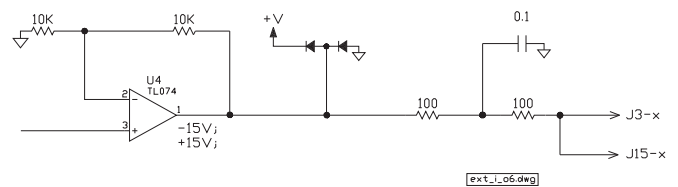

Figure 2-6
**Figure 2-6:** Monitor Voltage metering outputs are nominally a fixed VDC value from a low impedance source, for a normal Transmitter meter reading at 200kW output. Connecting metering outputs to any input other than a high impedance circuit will reduce this level.